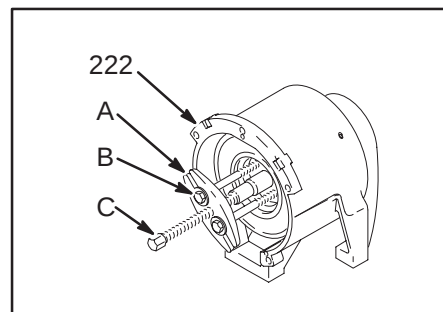

Fig. 11
NOTE: Refer to Fig. 11 for this procedure.
2. Disconnect the hose (63). Remove the spring clips (49,52) and drain hose (51).
3. Remove the bottom two screws (3) and lockwashers (4) from the clutch housing (222) and then remove the top three screws and lockwashers.
4. Tap lightly on the back of the bearing housing (11) with a plastic mallet to loosen the drive housing assembly (5) from the clutch housing (222). Pull the assembly away.
5. Remove the armature (212b) from the hub inside the pinion housing (219).
- a. Remove the four screws (213). Install two of the screws in the threaded holes in the rotor. Alternately tighten the screws until the rotor comes off.
- b. Use a standard steering wheel puller (A) and two 1/4-22 x 3 or 4 in. long screws (B). Replace the short screws of the steering wheel puller with the longer screws (B). Turn the screws (B) into the threaded holes of the rotor. Tighten the long screw (C) until the rotor comes off. See the Detail in Fig. 11.